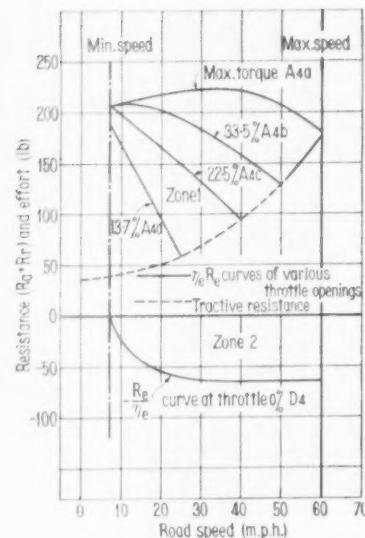

Fig. 3. Traction effort and resistance in 4th gear
Fig. 3 indicates the available traction effort ( $\eta_t R_e$ ) in 4th gear at particular throttle openings over the range of road speeds attainable in this gear. The traction resistance line represents the traction effort required to propel the vehicle at constant speed and is obtained from equations (1) and (2) using the vehicle data quoted.
The following key indicates the nomenclature referring to the effort curves plotted in Figs. 3 to 6, and all the cases, except those shown thus\*, are used in later figures.
In Figs. 3 to 6 it will be seen that at a particular road speed and throttle opening, the vertical distance between the tractive effort line and the tractive resistance line will give the excess force available for acceleration. Equation (5) may be rewritten in the form
For example, from Fig. 3, in 4th gear at 40 m.p.h. with maximum torque, there is available an accelerating force of 126 lb, and with 33.5 per cent throttle opening there is an excess force of 64 lb. With 22.5 per cent throttle opening, there is no excess